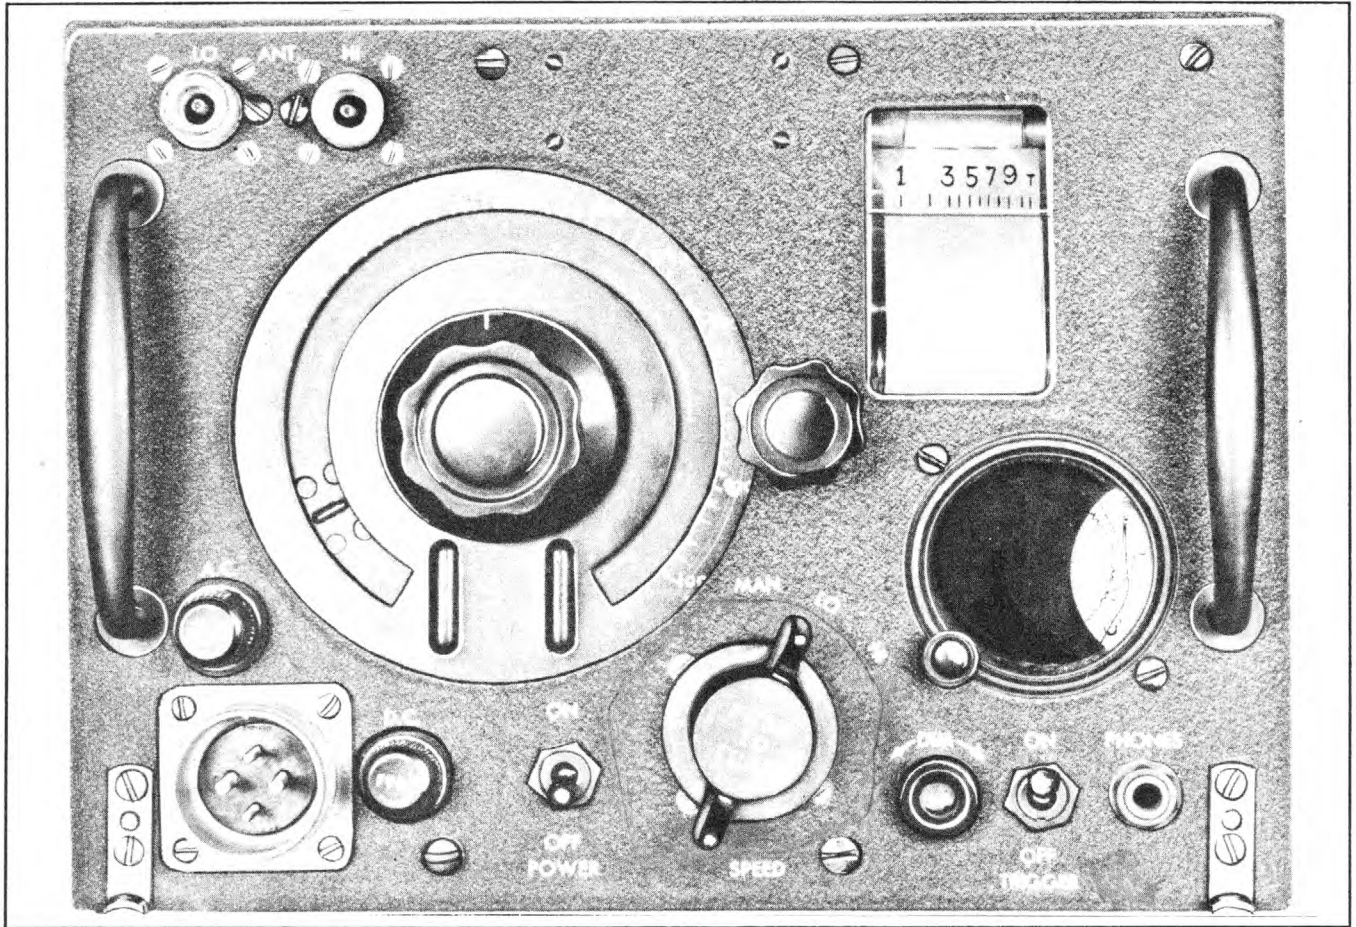

Figure 3-1. Radar Receiver R-34/APR-2—Front Panel View
a. TO START THE EQUIPMENT. (See figure 3-1.)
- (1) Turn "POWER" switch to the "ON" position.
- (2) Set "SPEED" switch to "MAN" position immediately.
- (3) Check if the pilot lamp lights and listen for operation of motor.
(See figure 3-1.)